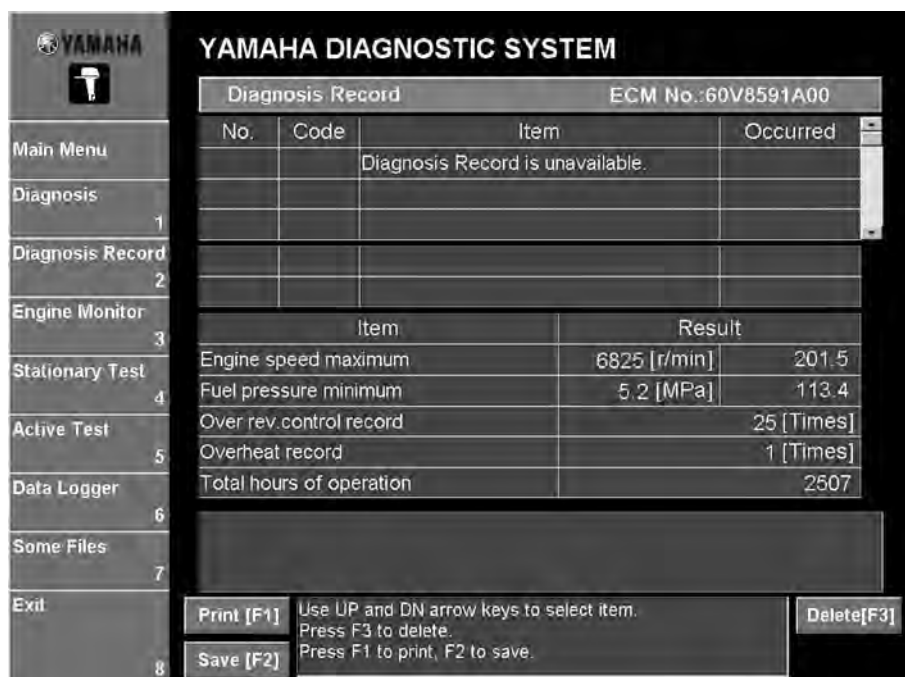
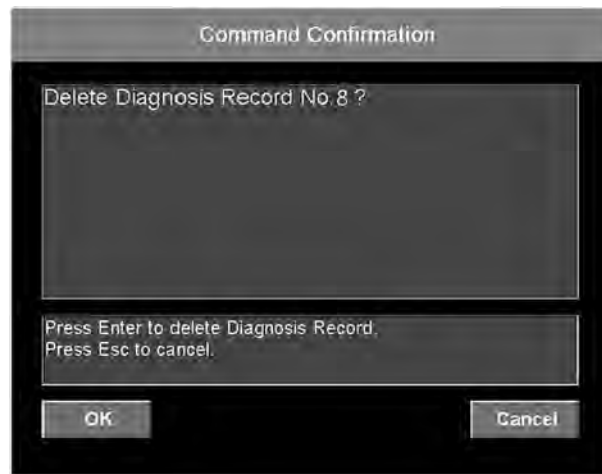

Fig. 43
Fig. 44
When a Diagnosis record is not available, "Diagnosis Record is unavailable" is displayed. (Fig. 43)
2. Click the **Delete [F3]** button or press the F3 key on your keyboard. (See fig. 43.) A confirmation message appears. (Fig. 44)
3. Click the **OK** button or press the Enter key on your keyboard. (Fig. 44) The selected item is deleted. To cancel deleting the item, click the **Cancel** button or press the Esc key on your keyboard.